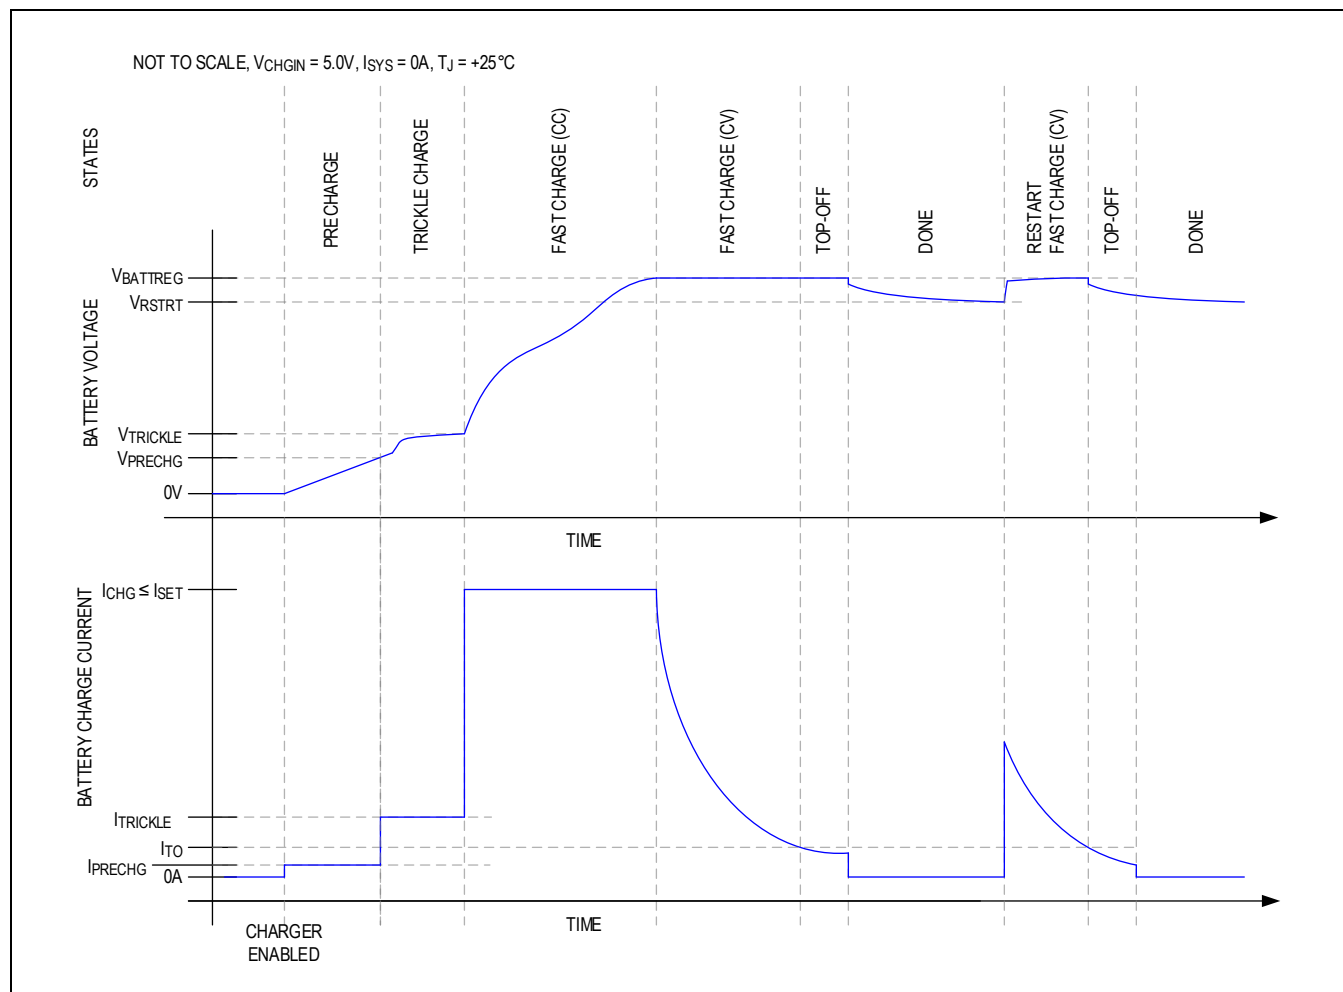
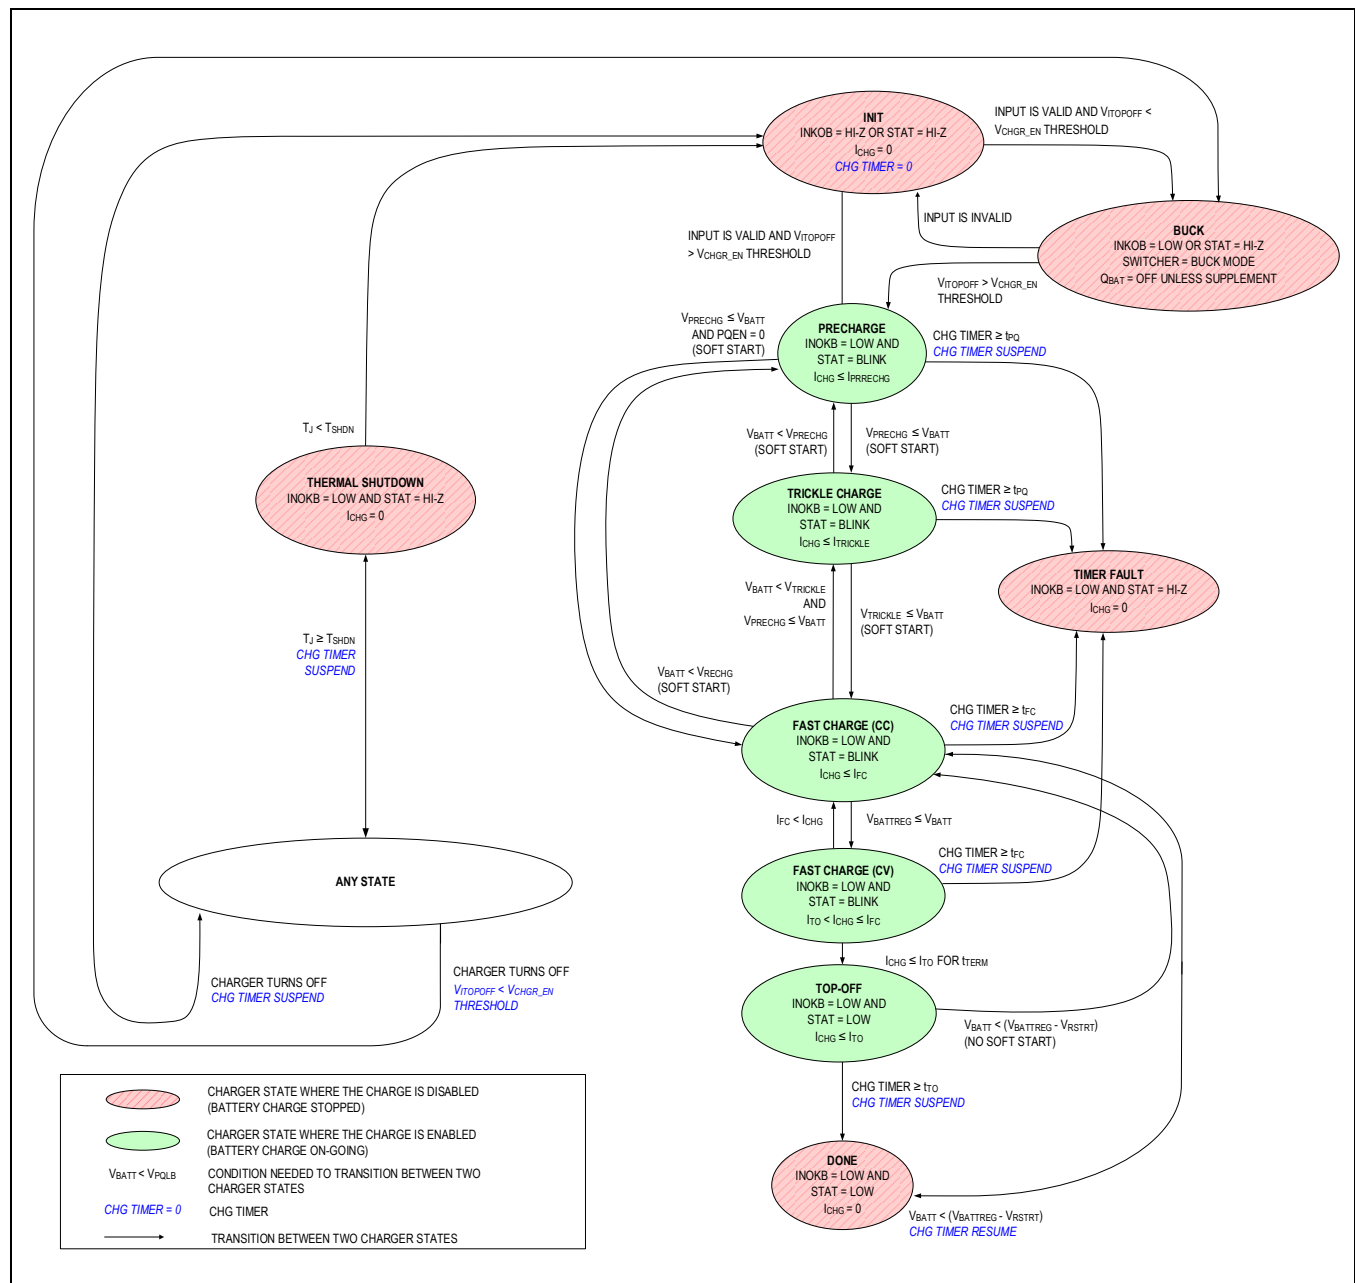

Figure 5. Li+/Li-Poly Charge Profile
Figure 6. Charger State Diagram
The MAX77789 utilizes several charging states to safely and quickly charge batteries, as shown in Figure 5 and Figure 6. Figure 5 shows an exaggerated view of the Li+/Li-Poly battery progressing through the following charge states when there is no system load and the die and battery are close to room temperature: precharge $\rightarrow$ trickle $\rightarrow$ fast-charge $\rightarrow$ top-off $\rightarrow$ done.
From any state shown in Figure 6 except thermal shutdown, the “INIT” state is entered whenever the charger inputs CHGIN is invalid, or the charger timer is suspended.
The chip has a state where battery charging is disabled, while the charger input CHGIN is valid. The state is called “buck” state. Entering or leaving the buck state is controlled by the EXTSM pin. If the voltage of this pin is pulled down by an external device (i.e., MCU) under VCHGR_EN, the chip goes to the buck state from any state if CHGIN is valid, as shown in Figure 6. Charging is disabled in the “buck” state, which means QBAT is off unless it is in supplement mode. If the voltage of this pin is over VCHGR_EN, the chip leaves the buck state, and resumes charging. It should be noted that charging can only be enabled or disabled when the CHGIN is valid. Therefore, the external device (i.e., MCU) should check the INOKB signal if CHGIN is valid before trying to enable or disable charging.
As shown in Figure 6, the precharge state occurs when the main battery voltage is less than VPRECHG. In the precharge state, charge current into the battery is IPRECHG.
As shown in Figure 6, the trickle charge state occurs when V_{BATT} > VPRECHG and V_{BATT} < VTRICKLE.
As shown in Figure 6, the fast-charge constant current (CC) state occurs when the main-battery voltage is greater than the trickle threshold and less than the battery regulation threshold ($V_{TRICKLE} < V_{BATT} < V_{BATTREG}$).
As shown in Figure 6, the fast-charge constant voltage (CV) state occurs when the battery voltage rises to $V_{BATTREG}$ from the fast-charge CC state.
In the fast-charge CV state, the battery charger maintains $V_{BATTREG}$ across the battery and the charge current is less than or equal to I_{FC} . As shown in Figure 5, charger current decreases exponentially in this state as the battery becomes fully charged.
As shown in Figure 6, the top-off state can only be entered from the fast-charge CV state when the charger current decreases below I_{TO} for t_{TERM} . In the top-off state, the battery charger tries to maintain $V_{BATTREG}$ across the battery and typically the charge current is less than or equal to I_{TO} .
As shown in Figure 6, the battery charger enters the done state after the charger has been in the top-off state for t_{TO} .
The battery charger provides a charge timer to ensure safe charging. As shown in Figure 6, the charge timer prevents the battery from charging indefinitely. The time that the charger is allowed to remain in each of the prequalification states is t_{PQ} . The time that the charger is allowed to remain in the fast-charge CC and CV states is t_{FC} . Finally, the time that the charger is in the top-off state is t_{TO} . Upon entering the timer fault state, STAT2 becomes Hi-Z.
In the timer fault state, the charger is off. The charger input can be removed and re-inserted to exit the timer fault state (See the “any state” bubble in the lower left of Figure 6).
As shown in Figure 6, the thermal shutdown state occurs when the battery charger is in any state and the junction temperature (T_J) exceeds the device's thermal-shutdown threshold (T_{SHDN}). When T_J is close to REG , the charger folds back the input current limit to 0A so that the charger and inputs are effectively off.